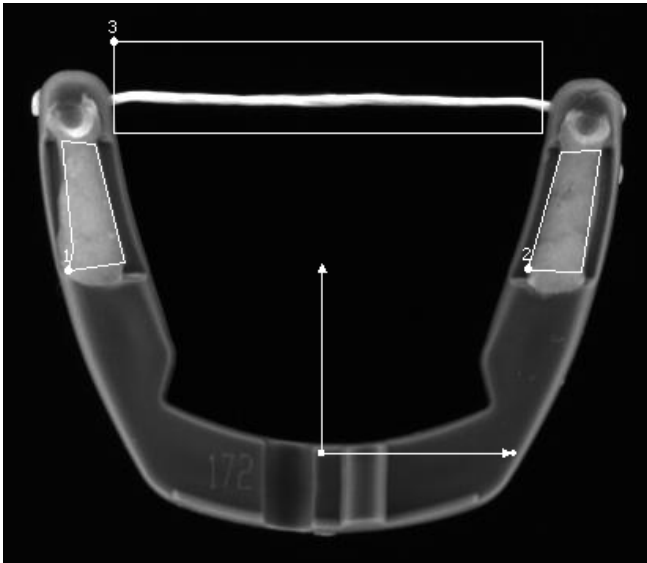

Figure 5-2. Defining Regions in which to Check for Presence
5. Draw three regions of interest that enclose the wire and the two sections of toothpaste in the dental floss holder, as shown in Figure 5-2. Click and drag repeatedly to select a polygon region. Double-click to complete the polygon.